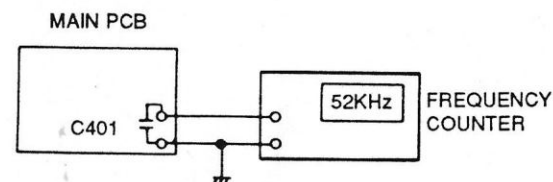

Fig. 7.
- Connect frequency counter to C401 (see Fig. 7) and set R/P switch (S3-0) to record position.